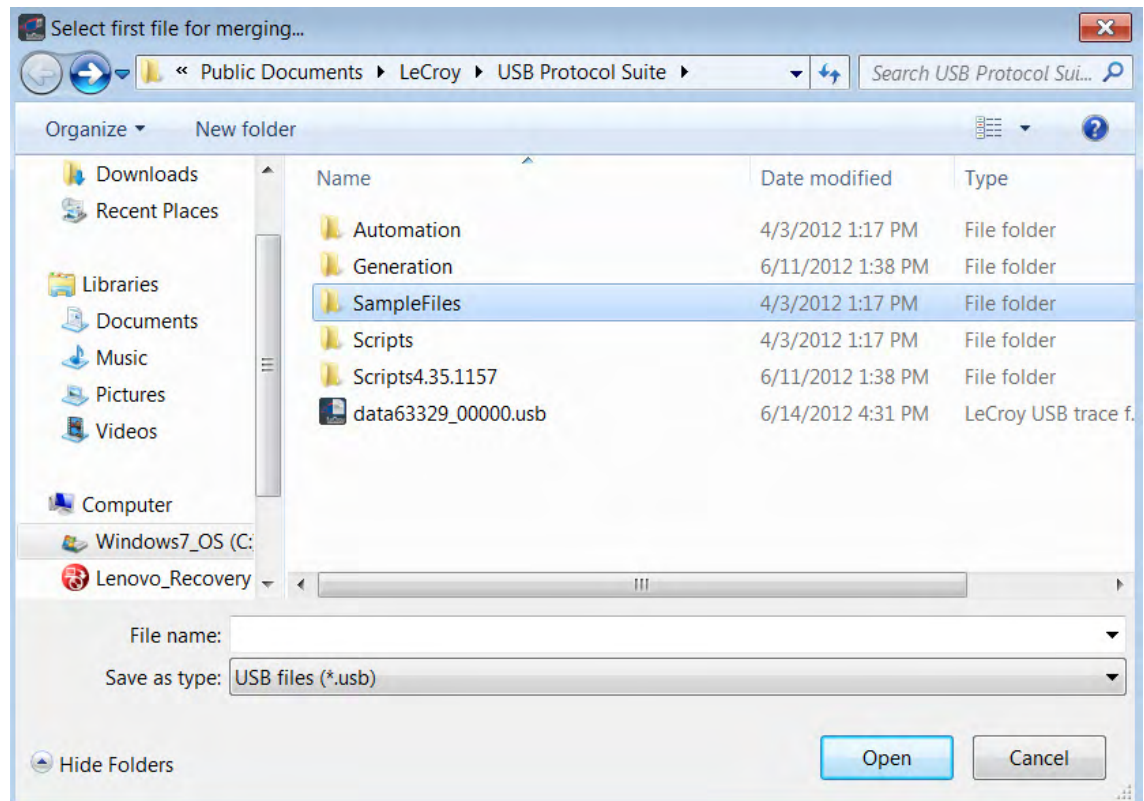

Figure 10.39: Select First File For merging Dialog.
1. Select **File > Merge Trace Files** to display a dialog box asking for the first source file (see Figure 10.39 on page 436).